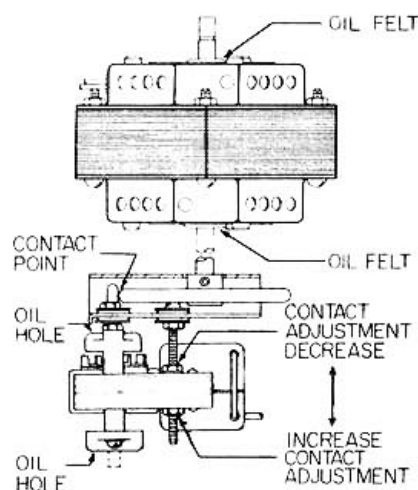

Fig. 9
3. Remove lower adjustment nut from small motor adjustment screw. (See Fig. 9, INCREASE CONTACT ADJUSTMENT).
1. Remove rubber tired rim drive pulley from the "U" bracket end of large motor shaft with a 3/32 allen wrench. (See Fig. 9).
3. Apply enough LESLIE oil or other light machine oil to soak the bearing felts of each motor. (See "Oil Hole" and "Oil Felt" points on Fig. 9). Don't add more oil than these felts will readily absorb. Cleaning and lubricating of small and large motors is now complete.
2. Loosen the contact adjustment nuts on small motor until small motor shaft no longer touches the rim drive pulley. (See Fig. 9, CONTACT ADJUSTMENT INCREASE/CONTACT ADJUSTMENT DECREASE).
4. Slowly tighten upper adjustment nut to force small motor shaft against rim drive pulley. (See Fig. 9, CONTACT ADJUSTMENT INCREASE.) Continue turning until rim drive pulley turns under the belt. Don't over-tighten upper adjustment nut.